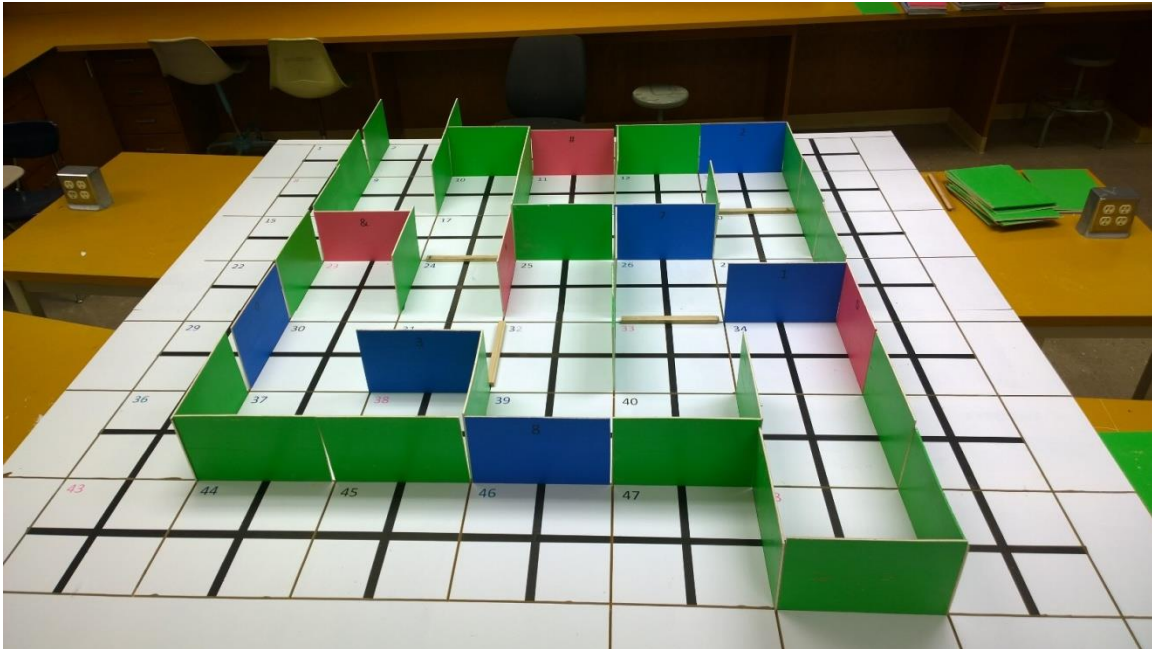

Figure 2 – 5x5 Maze with speed bumps (see attached JPEG)
12. The end cell shall always be within the square maze area (ignore figure 2).